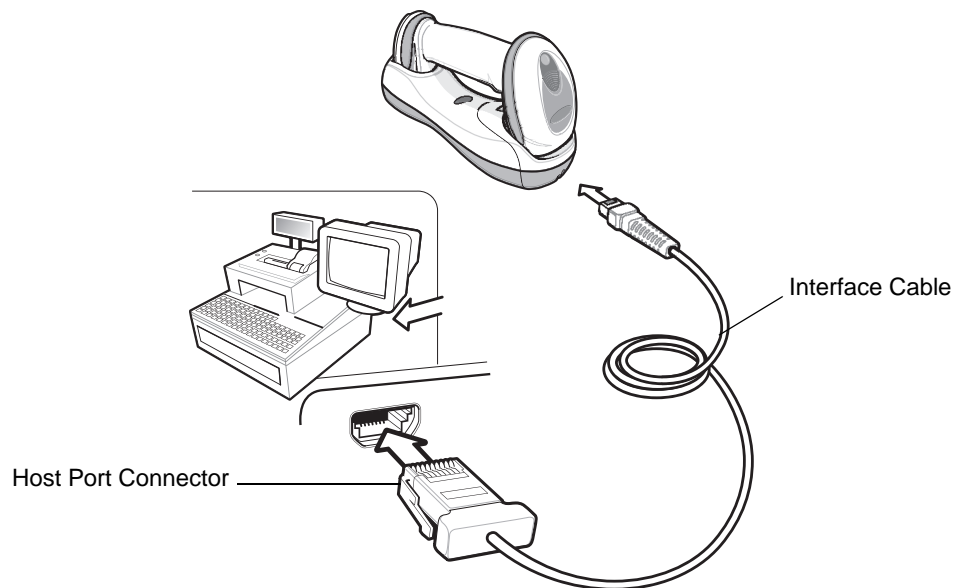

Figure 10-1 IBM Direct Connection
- ✓ **NOTE** Interface cables vary depending on configuration. The connectors illustrated in Figure 10-1 are examples only. The connectors may be different than those illustrated, but the steps to connect the cradle remain the same.